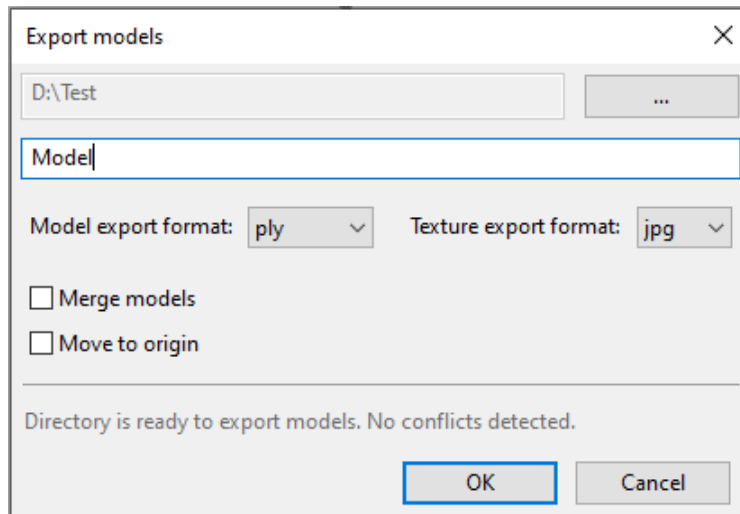

Figure 107: Dialog for exporting meshes.
2. Right click and select the *Export* → *Meshes* option, or select the *File* → *Export* → *Meshes* command. A dialog window will appear (Figure 107).